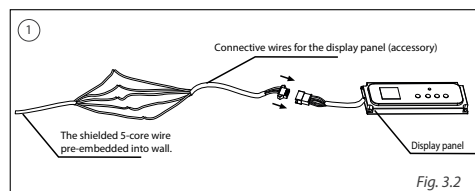

Fig. 3.2
1. Connect the male joint of 5-core wires group of the display panel with the female 5-core terminal of display panel. (See Fig.3-2)